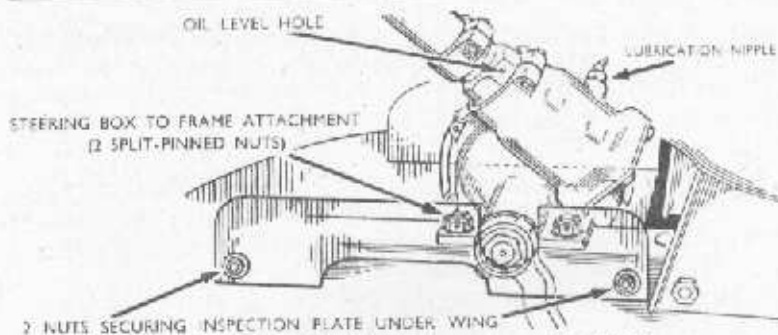

Fig. 20. Steering box lubrication and mounting details.
1. Lubricate Steering Box. Apply the oil gun (filled with E.P. oil) to the lubrication nipple on the box until oil begins to ooze from the hole in the large nut at the top of the box (see Fig. 20).